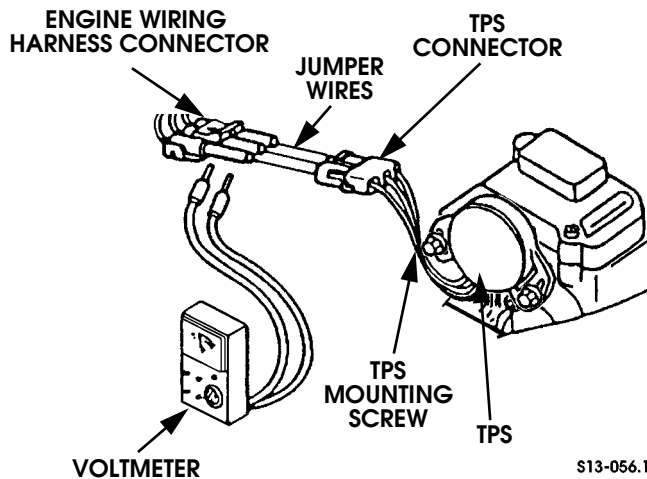

Figure 5-65: Measuring Sensor Voltage
1. Disconnect TPS connector from engine harness and install jumper wires between sensor and engine wiring harness (Figure 5-65).